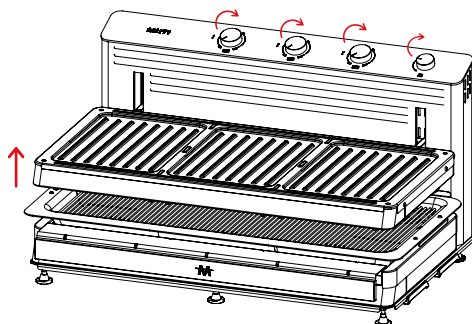
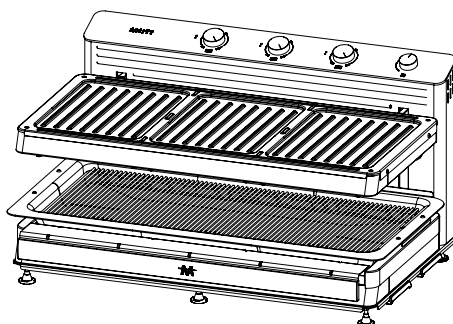

Figure 17
Figure 18
- To raise the adjustable cooking unit, turn the top-bottom distance adjustment knob clockwise to lift it to its maximum height (Figure 17 – Figure 18).
- Turn the power adjustment knobs to 100 and run the appliance empty for ~30 minutes, then switch it off. This burns off any residues left from the manufacturing process. During this operation, a one-time odor or smoke may be released due to the heating elements. Properly ventilate the room to avoid discomfort from the odor or smoke (Figure 18).